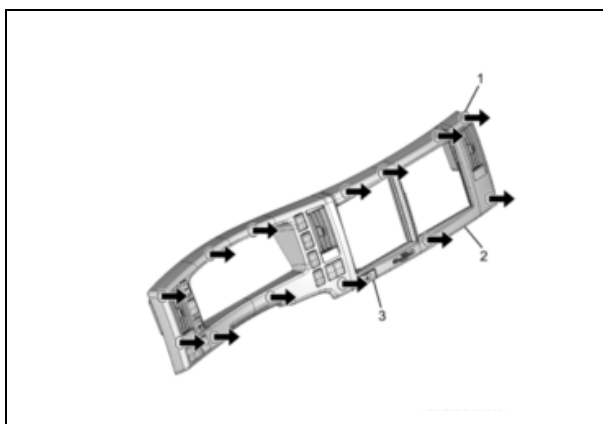

Figure 2
3. Remove the meter cluster bezel from the instrument panel by pulling forward and disconnecting the switches. (See Figure 2.)